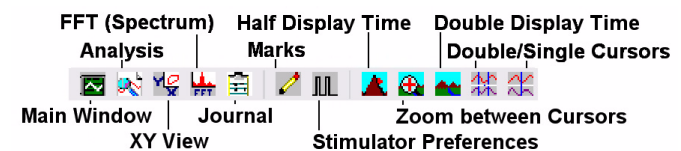
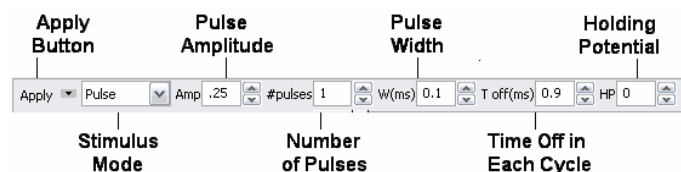

Figure NB-6-1: The **LabScribe** toolbar.
Figure NB-6-2: The stimulator control panel
- 2 Click the **Stimulator Preferences** icon on the **LabScribe** toolbar (Figure NB-6-1 on page NB-6-2) to open the **stimulator control panel** (Figure NB-6-2 on page NB-6-2) on the **Main window**.